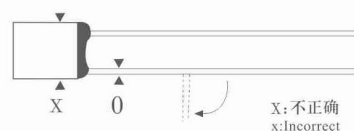

图 2 Fig.2
- 当弯曲引脚时，须用工具操作以确保引脚弯曲有足够弧度，引脚不可在距根部 3mm 内弯曲，在弯曲时工具不可夹着外壳及封口树脂。（见图 2）
When forming leads, a tool should be used to ensure that the leads are formed with sufficient curve. Leads should not be bent closer than 3mm to the thermal cutoff body. Holders or tools used during lead forming must be kept away from seal or body. (see Fig.2)